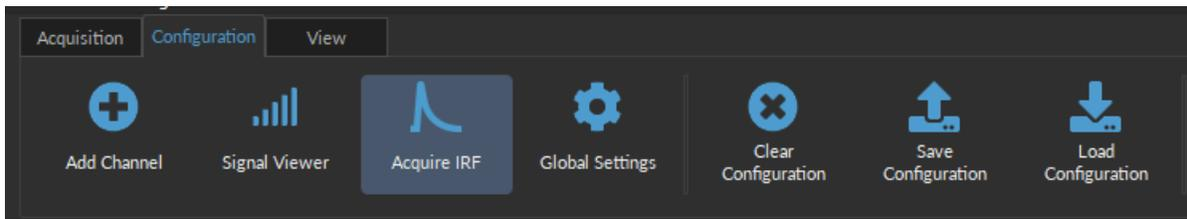

Figure 3.11: Acquire IRF button
10. Select *Acquire IRF* button from the *Configuration Tab*, as in Fig. 3.11.